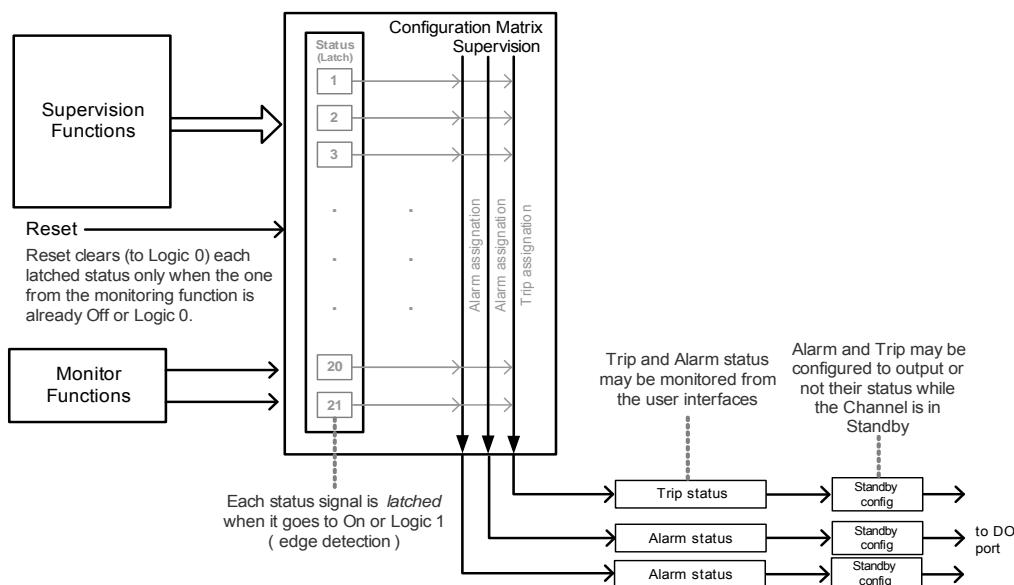

Figure 3-4 Supervision function logic
The Supervision has several different supervision functions. It also has two Monitor Alarm outputs that can be configured to generate a (global) Alarm and/or a (global) Trip. As shown in *Figure 3-4*, Alarm and Trip status signals are configured by a so called Configuration Matrix. Alarm and Trip are independent of each other and they can be configured differently.
Both Alarm and Trip statuses are the outputs from the Configuration Matrix and they can be monitored using the CMT1000 and Remote Access. Alarm and Trip Status can be configured as digital outputs (DO), however as shown in *Figure 3-4*, they are not directly connected to the output. Instead they are connected to the Standby Configuration boxes. The Standby Configuration boxes, shown in *Figure 3-4*, prevent Alarm and Trip to output their status values to the DO port during Standby mode; and this function can be used to prevent undesired alarms as long as the Channel is in Standby. When the Standby Configuration blocks the status of Alarm and/or Trip, the value transferred to the DO port is logical zero.